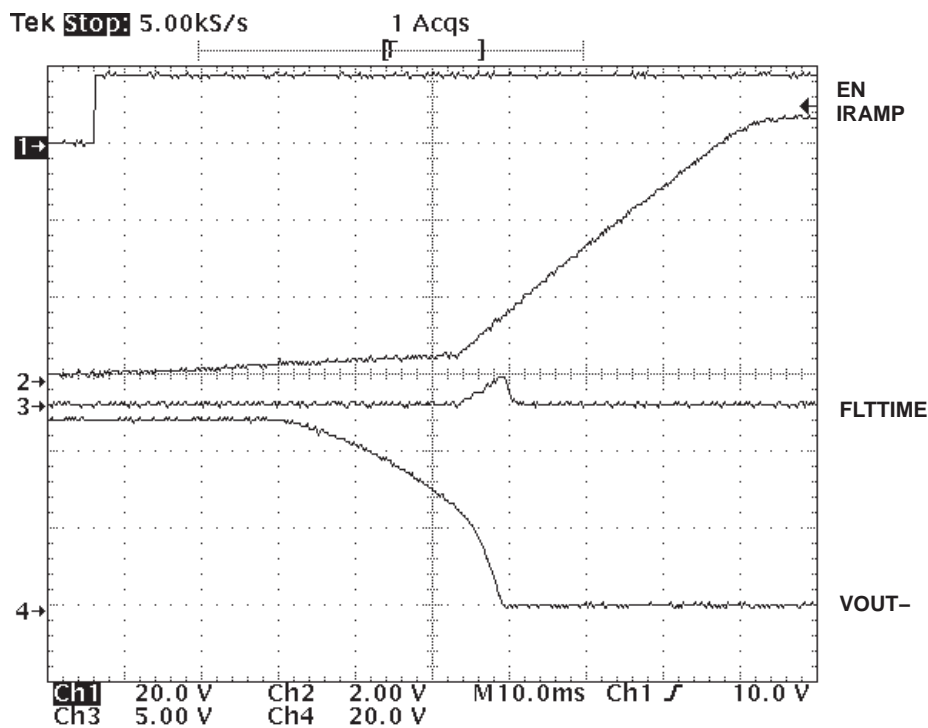

Figure 4. Load Ramp-Up Waveforms
For easier correlation to the information in this document, the scope trace baselines can be positioned as shown in Figure 4.
2. Place the ENABLE switch in the ON position. Verify the green power good LED turns on, and the DVM now displays approximately the input supply voltage level. The scope should have acquired a sweep similar to that shown in Figure 4.
The brief fault timing ramp which is shown in Figure 4 FLTTIME trace may or may not be present, depending on the actual values of the timing parameters for the particular board being used. If the load voltage ramps to full input potential during the initial reduced rate ramp period, then fault timing does not initiate.